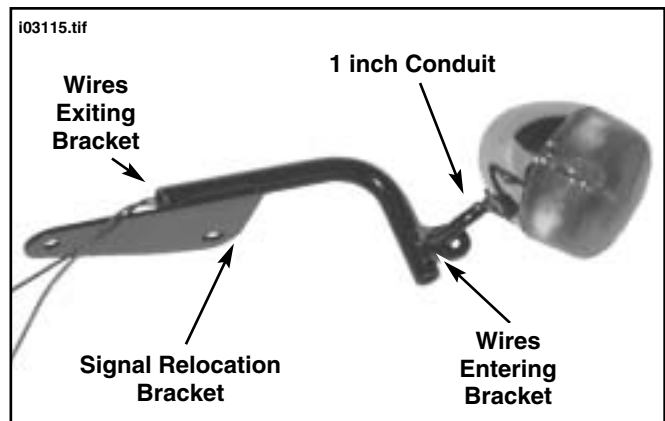

Figure 5. Install Wiring and Conduit into Bracket
- Standard Style Signal Lamp:** See Figure 5. Obtain left signal lamp housing removed previously and left turn signal relocation bracket (P/N 90139-00). Remove conduit and cut wiring 12 inches from entrance to lamp housing. Remove conduit and cut wiring 12 inches from entrance to lamp housing. Cut a 1 inch section off conduit and slide it over wiring up to the entrance of the lamp housing. Moisten wires with wet paper towel or rag and insert wires through relocation bracket as shown until wires exit from opposite end of tube. Slide conduit down to protect wiring at wire entrance of relocation bracket.
12. **Deuce Style Signal Lamps:** See Figure 5. Obtain left signal lamp housing and left turn signal relocation bracket (P/N 90139-00) Cut wiring 12 inches from entrance to lamp housing. Moisten wires with wet paper towel or rag and insert wires through relocation bracket as shown until wires exit from opposite end of tube.